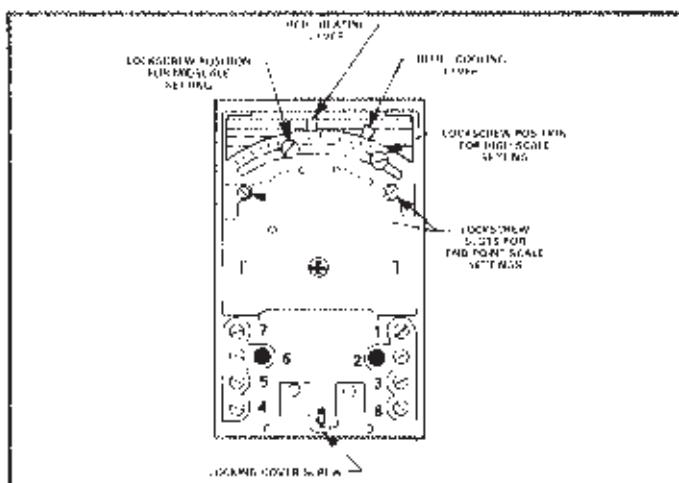

FIGURE 34
- 1 Remove cover from room sensor. Connect voltmeter to terminals 3 (-) and 4 (+). See Figure 34.
- 5 Table 3 lists the voltage ranges that reflect conditions at room sensor. Refer to Figure 34 for meter connections.